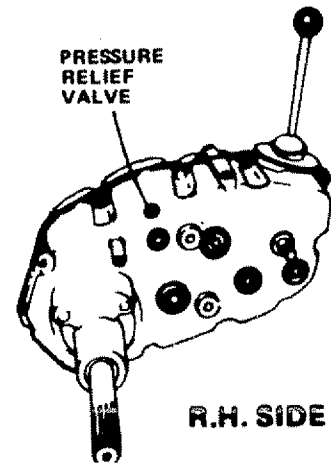

FIGURE 45
- b. Check Pressure Relief Valve (Fig. 45 - Inset) located on R.H. side near top. It should spring completely closed when pulled out by hand and released.